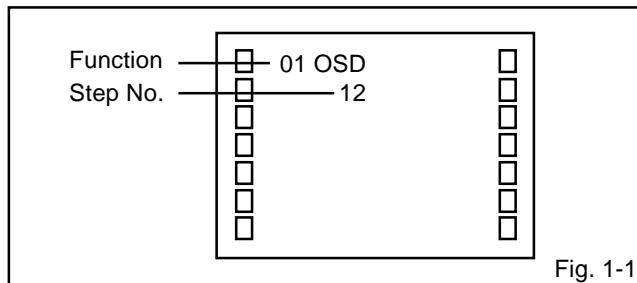

Fig. 1-1
2. Press the VOL. DOWN button on the set and the Channel button **(9)** on the remote control for more than 1 second to appear the adjustment mode on the screen as shown in **Fig.1-1**.
5. Activate the adjustment mode display of **Fig. 1-1** and press the channel button **(03)** on the remote control to select "CUT OFF".
4. Activate the adjustment mode display of **Fig. 1-1** and press the channel button **(16)** on the remote control to select "G DRV".
3. Activate the adjustment mode display of **Fig. 1-1** and press the channel button **(04)** on the remote control to select "HPOSI".
3. Activate the adjustment mode display of **Fig. 1-1** and press the channel button **(08)** on the remote control to select "VPOSI".
3. Activate the adjustment mode display of **Fig. 1-1** and press the channel button **(07)** on the remote control to select "VSIZE".
3. Activate the adjustment mode display of **Fig. 1-1** and press the channel button **(09)** on the remote control to select "VLIN".
4. Activate the adjustment mode display of **Fig. 1-1** and press the channel button **(64)** on the remote control to select "SEPAL".